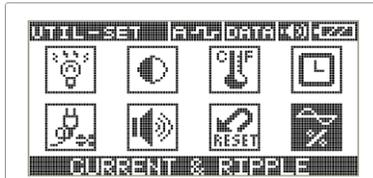

Fig. 1
1. Press the **<ENT>** button to CURRENT & RIPPLE ICON in the UTILITY menu (Figure 1).
7. After measurement is complete, press <ESC> button, then you can move to the UTILITY menu (Figure 1).